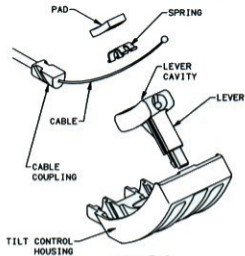

FIGURE 5
7. REMOVE AND SET ASIDE PAD AND SPRING FROM LEVER. REMOVE CABLE FROM LEVER. PROPERLY DISPOSE OF LEVER(S). SEE FIGURE 5.